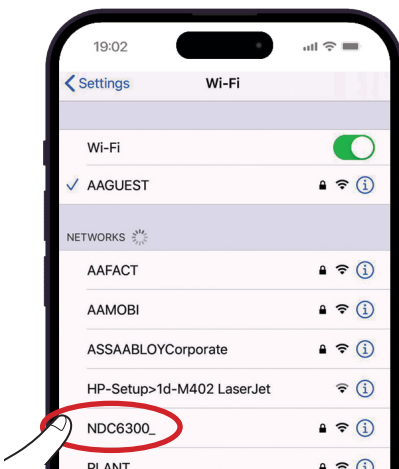

Fig. 17
- Once found, connect to the network. (Fig. 17)